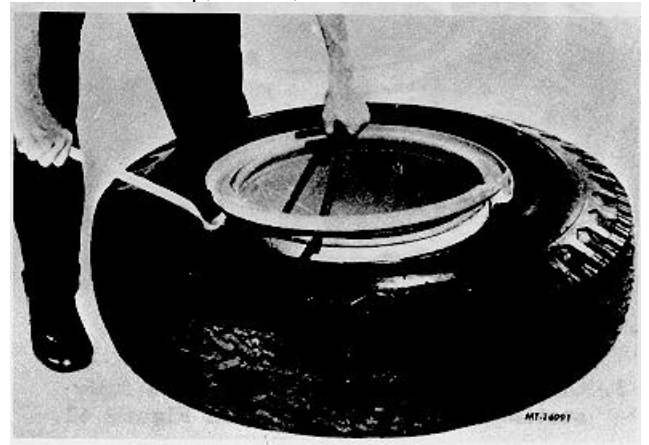

Fig. 39
3. Continue prying around tire until ring is free (Fig. 39). Turn tire and rim assembly over on floor. Unseat second bead from rim. Lift the rim from tire. Remove tube and flap, if used, from tire.